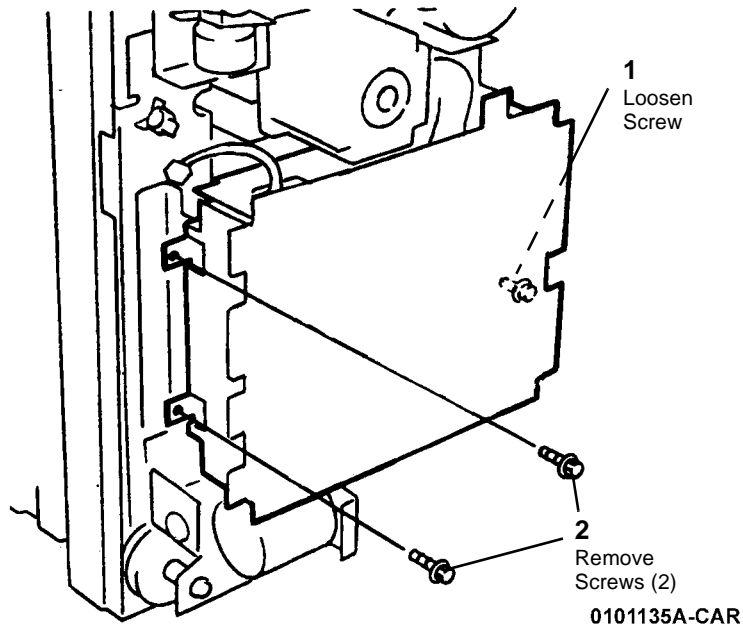

Figure 1 Removing Screws on PWB Chassis
3. Remove the screws on PWB Chassis (Figure 1).